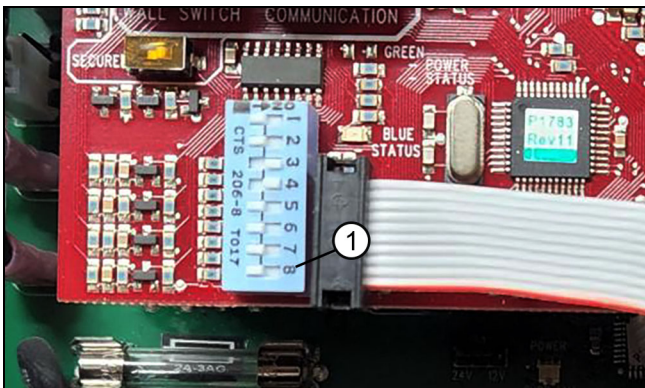

Figure 61
3. Turn on both AC and Battery power switches on the control box cover. Open the control box and flip dip switch 8 back to the left. See Figure 61.